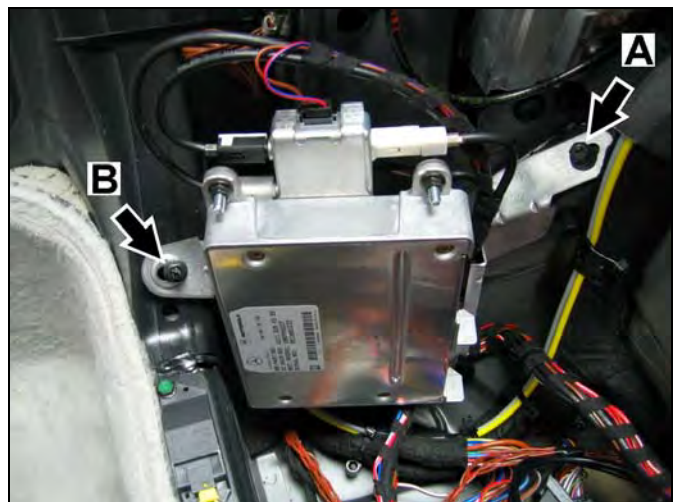

Figure 17
12. With the MHI control module facing out and the antenna switch up (Figure 17), mount the bracket assembly:
- a. Remove the existing M6 flange nut from the threaded stud on the exposed body behind the passenger seat and use it to fasten the long arm (A, Figure 17) of the bracket.
- b. Fasten the short arm (B, Figure 17) of the bracket to the threaded stud on the exposed body behind the passenger seat with the kit-included M6 flange nut.